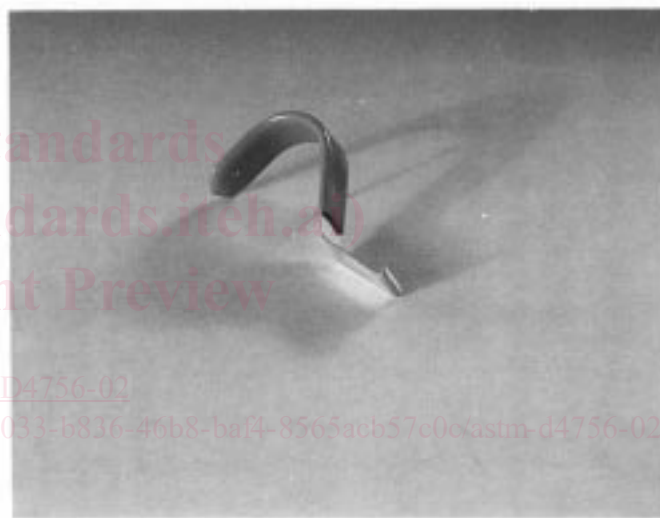

FIG. 4 Zip Tool
3.2.10 *zip tool*—a special hand tool used to separate interlocked siding panels. (See Fig. 4.)